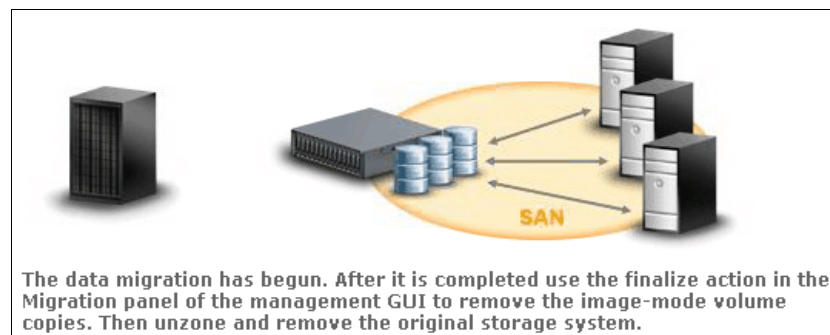

Figure 6-16 End of the storage migration wizard
8. Click **Finish** to end the storage migration wizard (Figure 6-16).